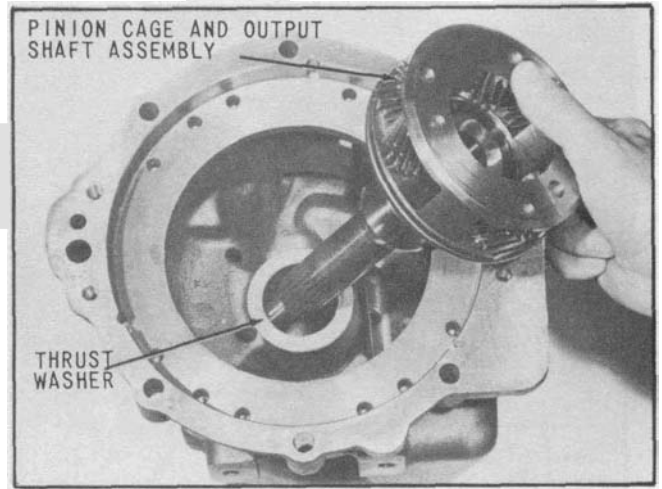

Fig. 14 Installing Pinion Cage and Output Shaft
3. Install pinion cage and output shaft flush against thrust washer as shown in (Fig. 14). Avoid rotation of pinion cage and output shaft during assembly as it tends to unseat washer tang from its groove.